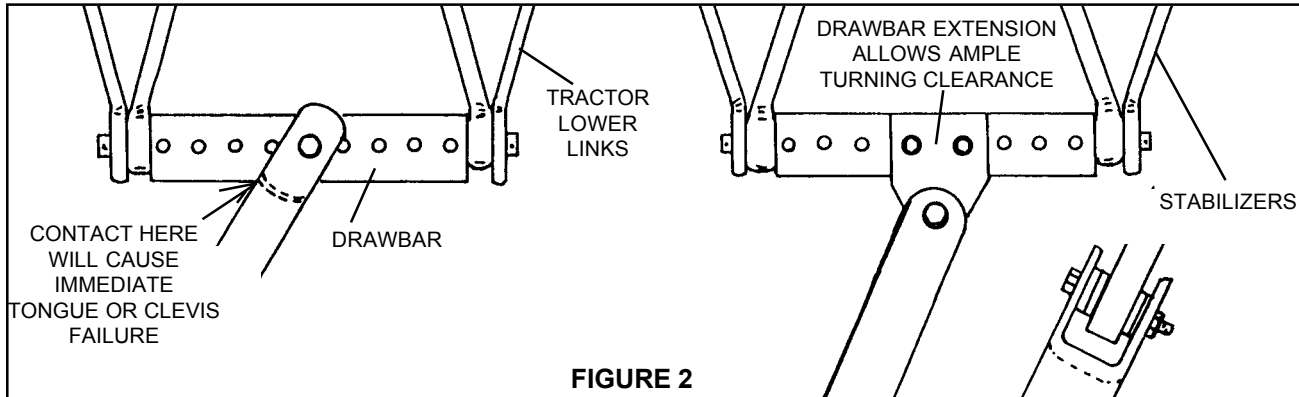

**FIGURE 1**
Place a 1" washer (1) under the top lip of the Clevis hitch. Add enough 1" spacer washers (2) between the bottom of drawbar and the bottom lip of the Clevis to fill the open space. Install a 1" grade 5 or 8 bolt (5" long). Install a locknut (3) onto the bolt beneath the Clevis and tighten the 1" locknut & bolt securely. See **Figure 1**.